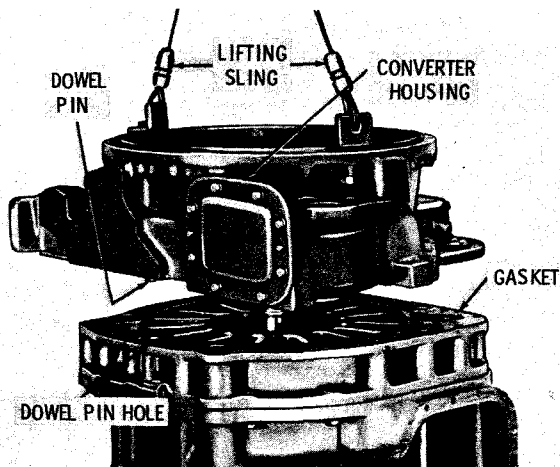

Fig. 7-62. Installing converter housing onto retarder housing (CBT, CLBT, VCLBT)
(1) Attach a 2-strand lifting sling to converter housing (fig. 7-62). Install a gasket onto the retarder housing and lower the converter housing, aligning dowel pins in the converter housing with dowel pin holes on both sides of the retarder housing.